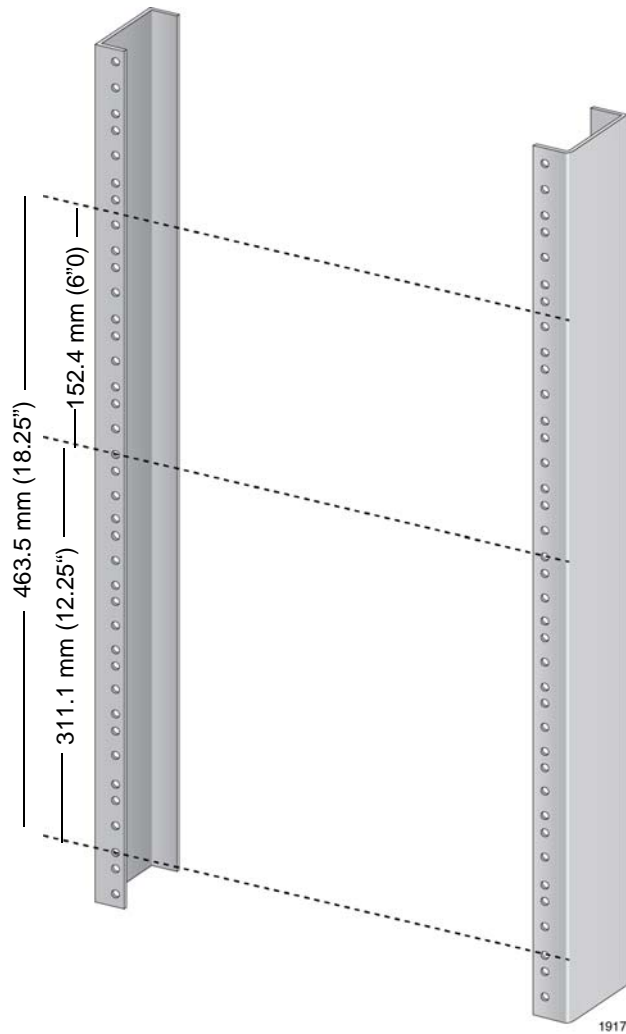

Figure 33. Reserving Vertical Rack Space
1. Reserve 311.1 mm (12.25") of vertical rack space for the installation of the AT-SBx3112 Chassis, as shown in Figure 33 on page 92.